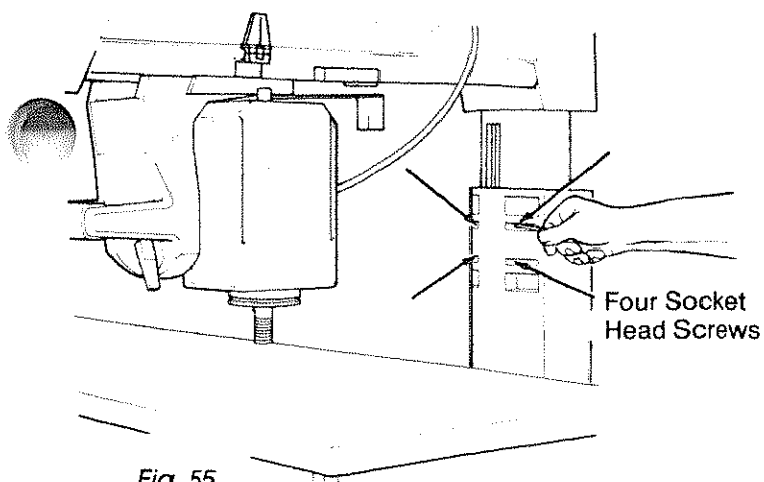

Fig. 55
11. Use 3/16 hex "L" wrench to loosen the four screws in the front of the *column support* slightly, if you have not already done so in the Adjusting Elevation section. (Figure 55)